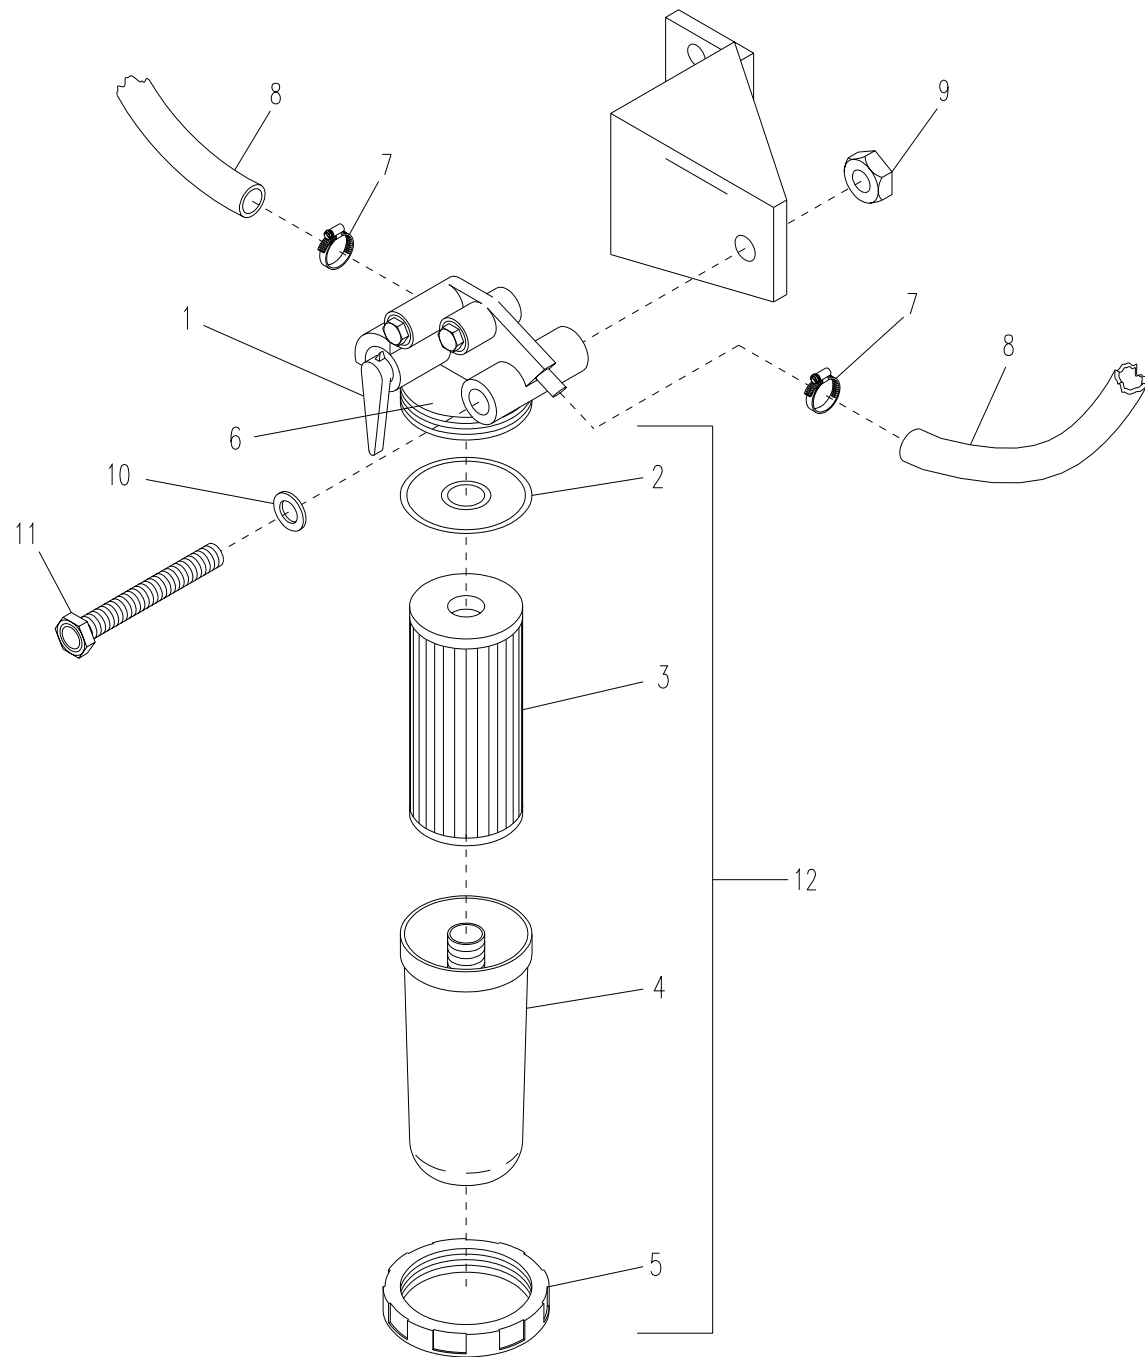

Figure 4-17. Fuel Filter Assembly
- f. Disconnect J7(6) from P7(7) (Figure 4-17) and install jumper switch to P7(7) engine wiring harness. (Ensure switch is off prior to connecting to wiring harness.)
- (1) Remove radiator support bracket (perform Para 4.18., REMOVE, step d).
- (2) Close fuel filter valve (1, Figure 4-17) (up-down position).
- (3) Remove screw ring (5) by turning ccw and remove filter cup (4) and O-ring (2).
- (4) Remove filter element (3) from filter cup (4) and discard filter element.
- (5) Place new filter element (3) inside filter cup (4).
- (6) Secure cup (4) to valve body (6) by tightening screw ring (5).
- (7) Open fuel filter valve (1) (side-to-side position).
- (8) Install radiator support bracket (perform para 4.18. REPLACE step f).
- (9) Bleed fuel system (para 4.29.).